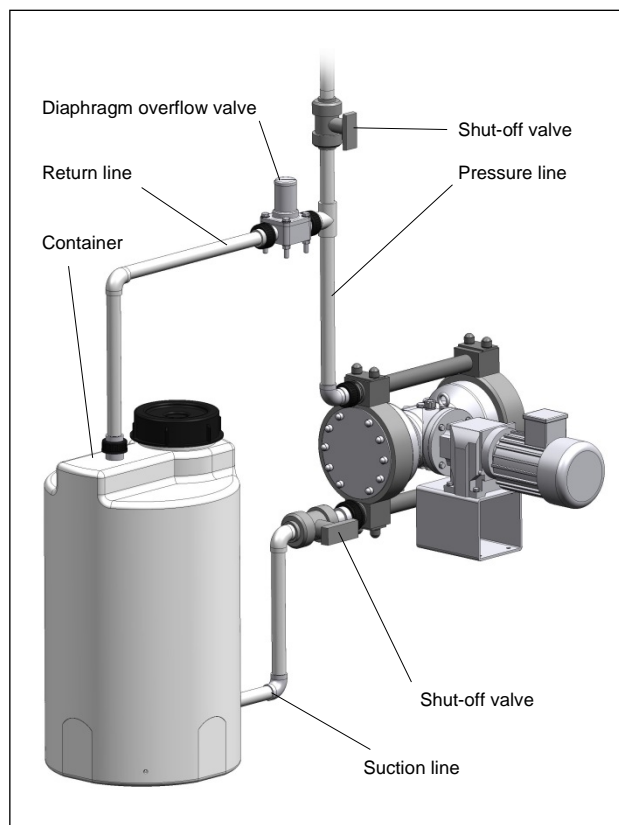

Fig. 17 System with overflow valve
- install overflow valve (Fig. 17)